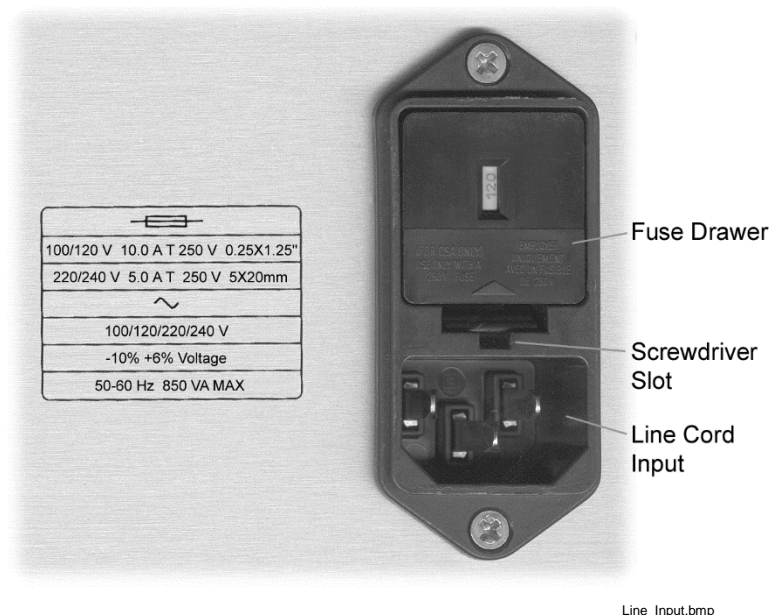

Figure 7-2. Power Fuse Access
1. Identify the line input assembly on the instrument rear panel. See Figure 7-2.
2. Turn the front panel line power switch OFF (O).
11. Turn the front panel line power switch On (I).
1. Locate line input assembly on the instrument rear panel. See Figure 7-2.
2. Turn front panel power switch Off (O).